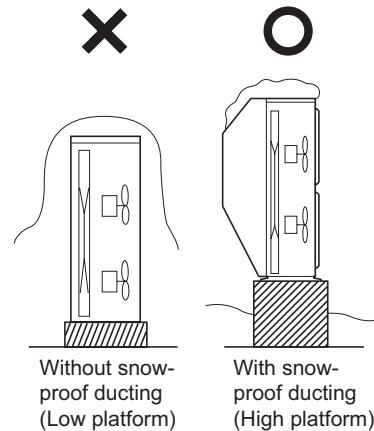

Fig. 1-8
- The platform should be higher than the max. snow depth. (Fig. 1-8)